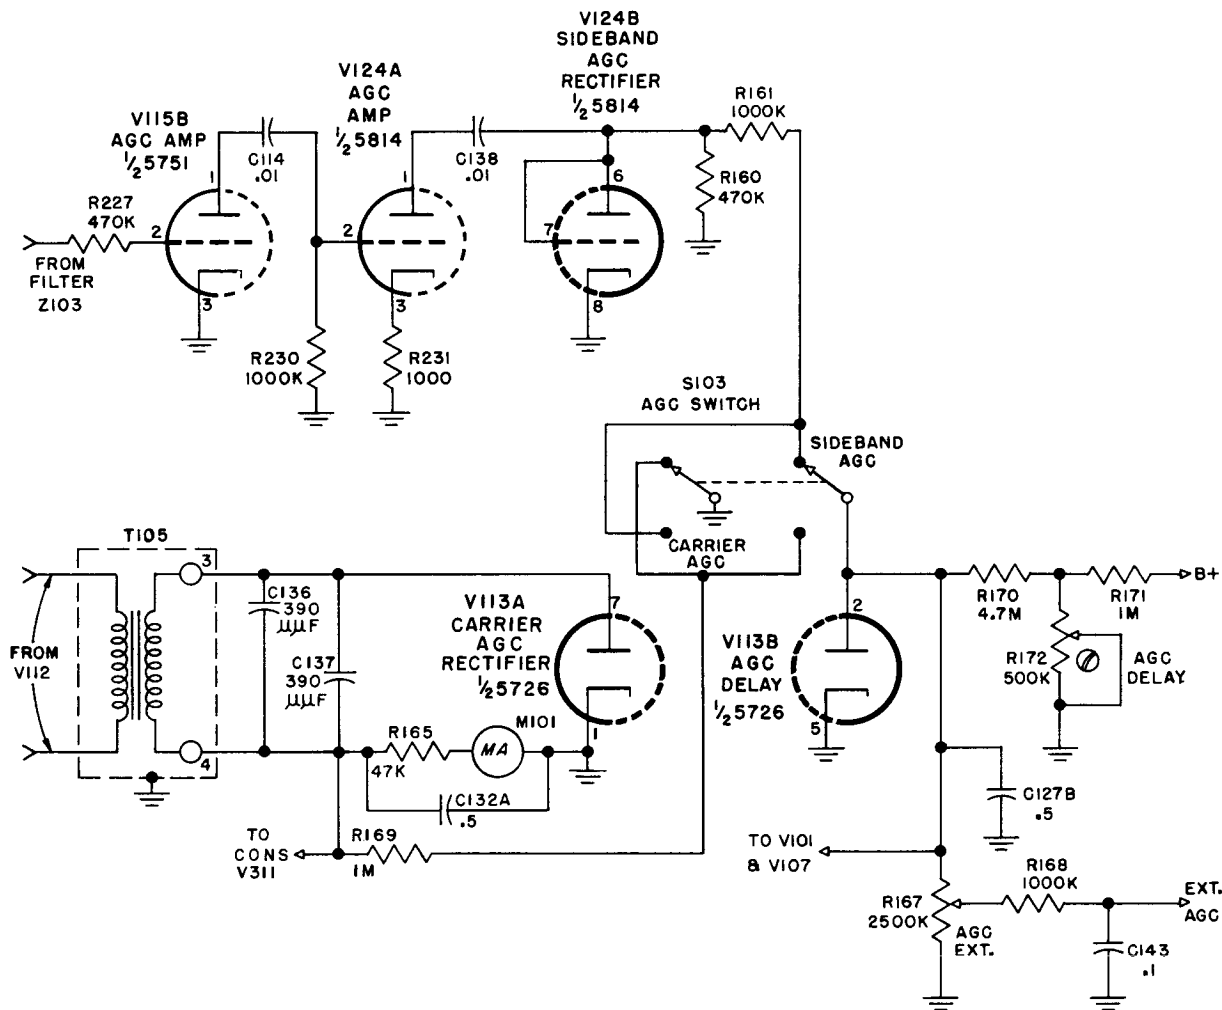

Figure 2-9. AGC Circuits, Simplified Schematic Diagram
(1) CARRIER AGC. (See Figure 2-9.)—The circuits which produce the carrier AGC voltage include
(2) SIDEBAND AGC. (See Figure 2-9.)—The sideband AGC circuits include AGC amplifier V115B which uses one half of a 5751 twin triode; AGC amplifier V124A which uses one half of a 5814 twin triode; sideband AGC rectifier V124B, diode connected half of a 5814, AGC switch S103 and AGC delay diode V113B described in the previous sub-paragraph. The voltage to be used for sideband AGC is taken from the audio output of filter Z103 through resistor R227. The audio is amplified in the two AGC amplifiers V115B and V124A and rectified in the sideband AGC rectifier V124B. The rectified voltage developed across resistor R160 is then delivered to the plate of the AGC delay diode V113B, through resistor R161 and AGC switch S103. Like the carrier AGC, the sideband AGC is used to control the gain of the two sideband frequency converters, V101 and V107. The application of sideband AGC to the frequency converters is delayed in exactly the same manner as was the carrier AGC, described in the previous subparagraph.